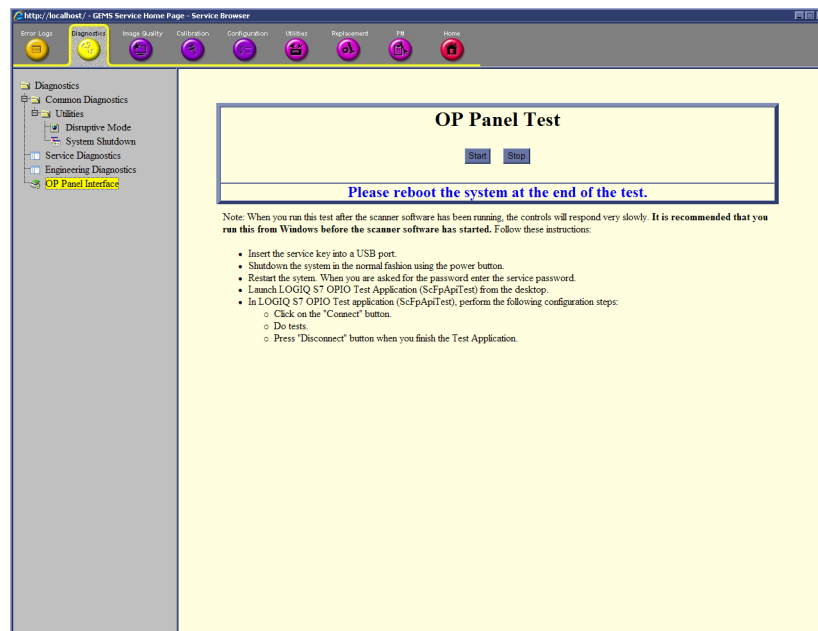

Figure 4-35 OP Panel Interface page screen
**NOTE:** *Figure 4-35 is intended to be shown upside-down.*